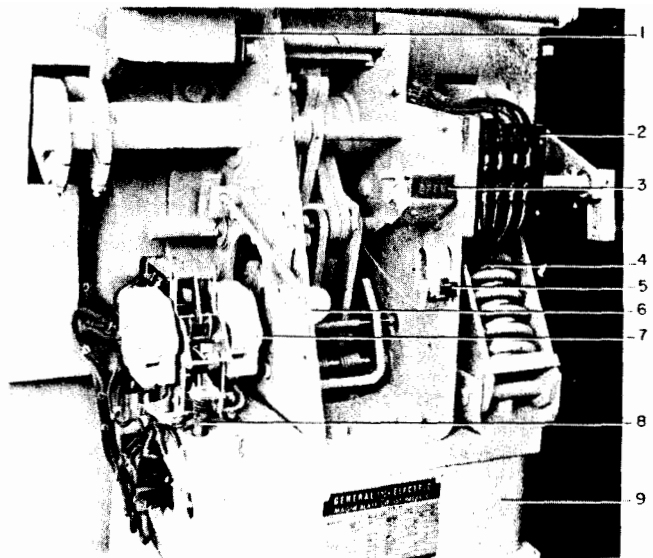

Fig. 1 MS-13 Operating Mechanism
The MS-13 operating mechanism shown in Fig. 1 is of the solenoid type designed to give high speed closing and opening. The closing operation is controlled by the control device (7). The control device also permits trip-free operation (tripping the breaker at any time during the closing operation) and prevents solenoid pumping (reclosing) after a trip-free operation. The breaker can be opened electrically, by remote control, or manually, by means of the manual trip device (6). All secondary connections from the breaker to the metal-clad unit are made through the coupler (1).